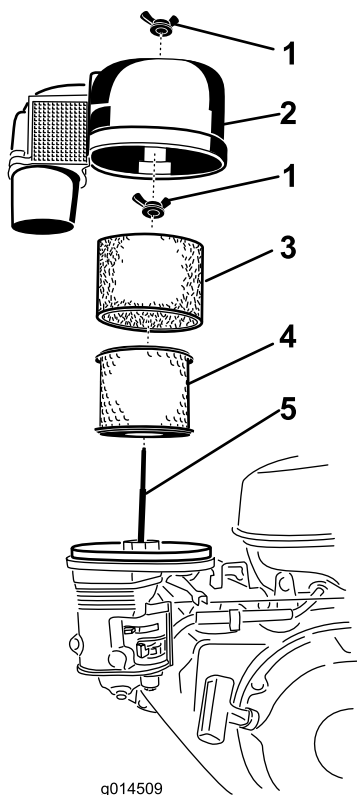

Figure 15
- Remove the wing nut and lift off the cyclone filter with the air-filter cowl (Figure 15).